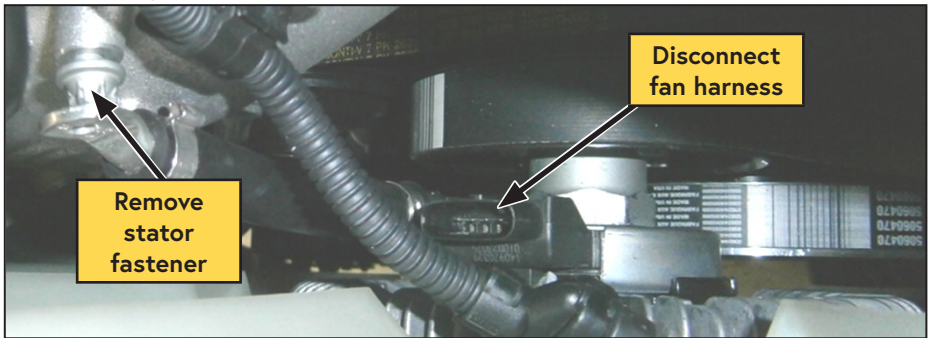

Figure 6 — Disconnect fan clutch
- Disconnect the fan clutch plug and remove the stator fastener using an E11 Torx socket (Figure 6).